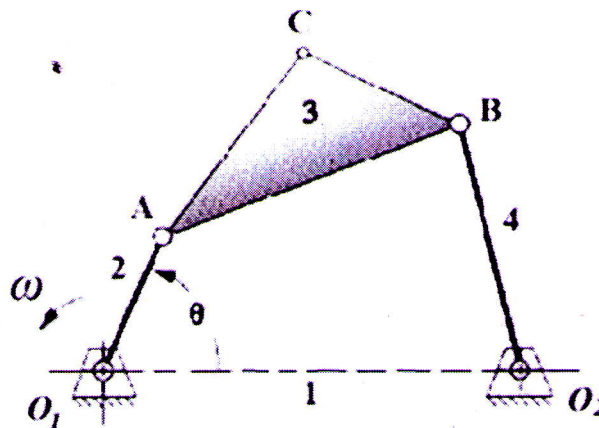

Fig. 1
- 11 For the four bar linkage given in Fig.1, $O_1O_2 = 420\text{mm}$, $O_1A = 150\text{ mm}$, $AB = 300\text{ mm}$, $O_2B = 250\text{ mm}$, $AC = 230$, $BC = 170\text{ mm}$. $\theta = 60^\circ$. The crank rotates with a uniform angular velocity of 1500 rpm.